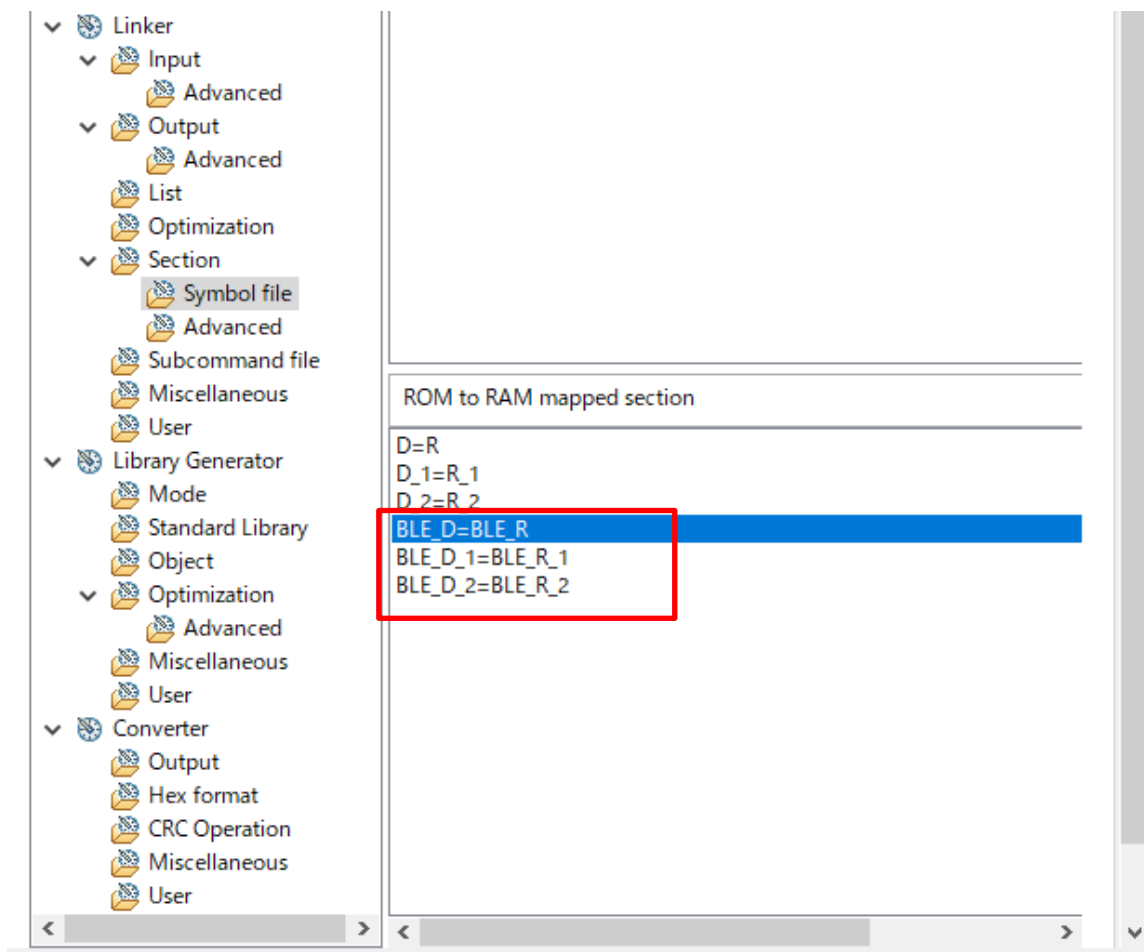

Figure 4.34 : Rom to RAM mapped section configuration
- (1) Select "Settings" → "Tool Settings" → "Linker" → "Section" → "Symbol file".
- (2) Input the following to the "ROM to RAM mapped section". (Figure 4.34)